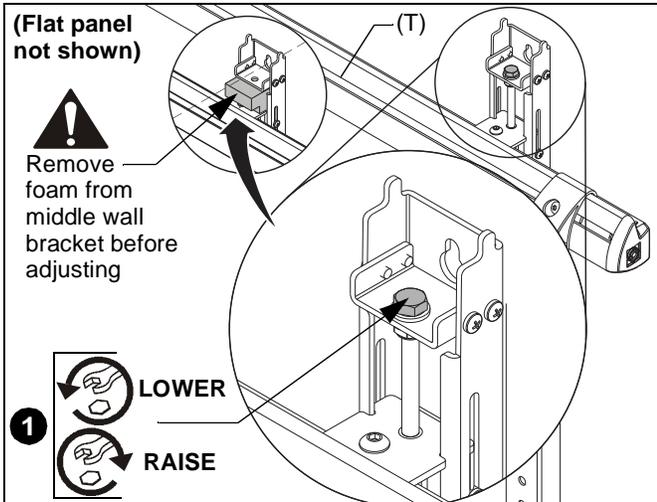

Figure 17
**IMPORTANT !** : Be sure to remove the foam block contained in the middle wall bracket **BEFORE** adjusting or leveling the wall assembly. (See Figure 17)
1. The wall assembly (T) can be adjusted or leveled by turning the hex head bolt in the wall brackets. (See Figure 17)